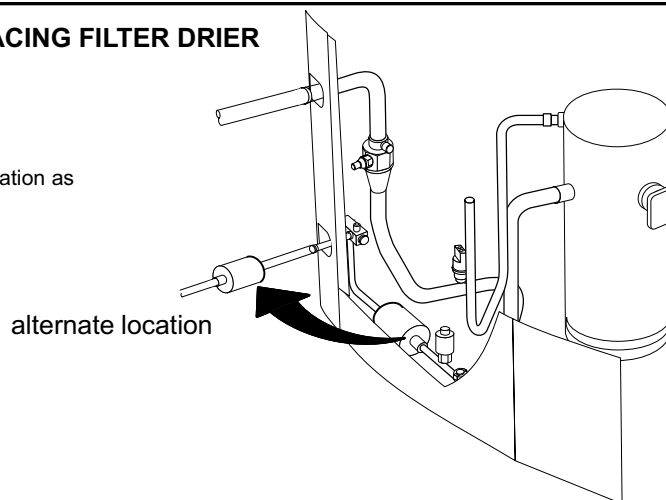

FIGURE 9
- 9- If pressure drop is greater than 4 psig replace filter drier. See figure 9.